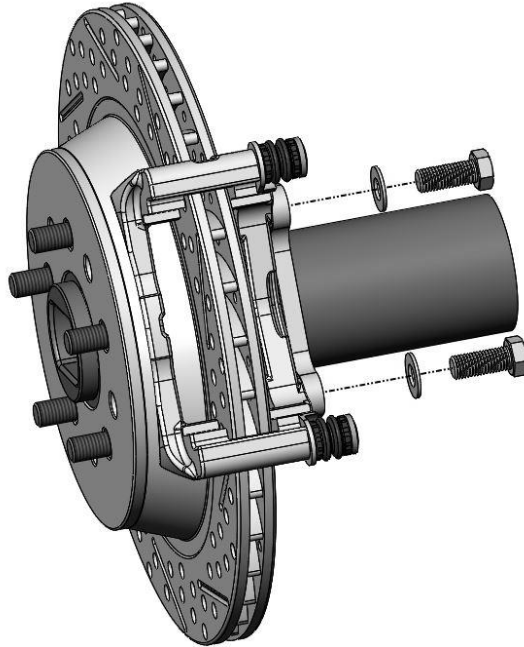

Figure 9 – Caliper Anchor Installed
10. Remove the Caliper Anchor bracket from the caliper by removing the M8-1.25 x 21mm Caliper Mounting Bolts from the Anchor followed by removing the brake pads. Install the caliper anchor over the rotor and position to the Secondary caliper bracket. Using the provided M12 Flat Washers and M12-1.75 x 30mm Socket Head Cap Screws, and torque the bolts to 80 lb/ft. Refer to Figure 9 below for reference on installing the caliper anchor.